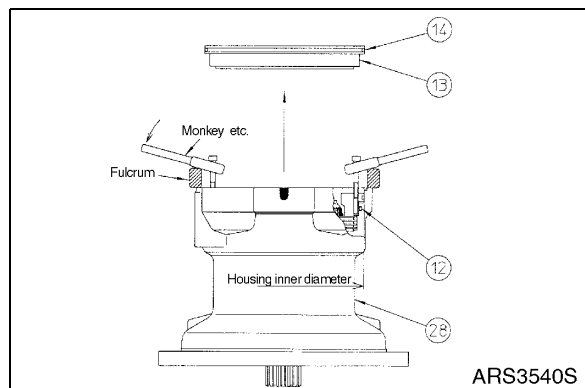

Figure 17
9. Piston (13) will not come out of housing (28) due to sliding resistance of O-rings (12 and 14). Remove it using tap holes (M6) in piston. remove piston (13) as shown in Figure 17.